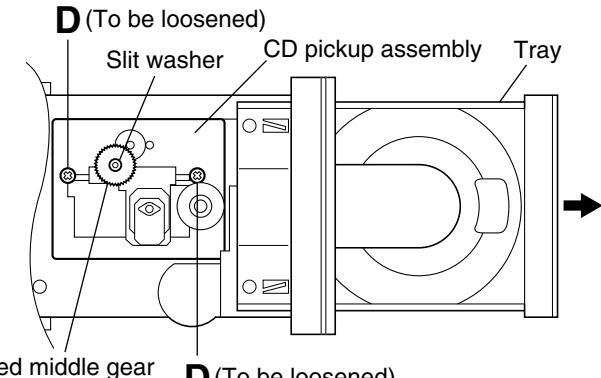

Fig.10
5. Pull out the tray. (See Fig.10.)
(See Fig.10.)